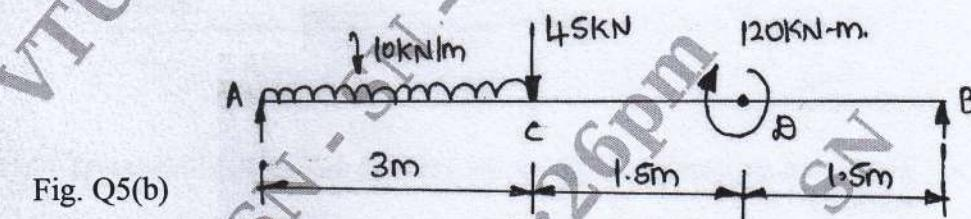

Fig. Q5(b)
b. Draw SFD and BMD for the beam shown in Fig. Q5(b). Locate point of Contra flexure if any. (12 Marks)